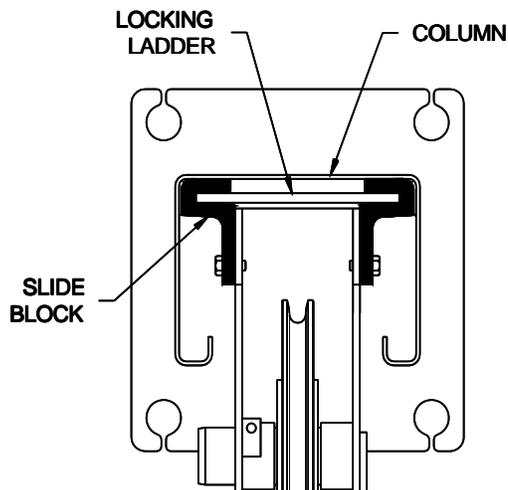

Fig 10 – Column Positioning
- 18) Raise the locking ladder, push the column against the slide blocks, and lower the ladder into the slide blocks, **Fig 10.**